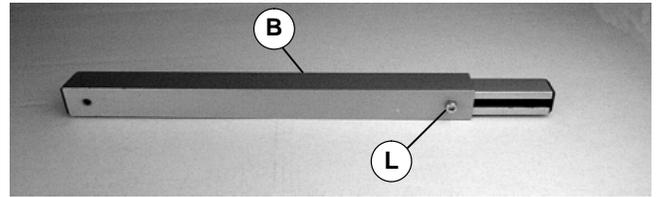

Figure 10
- Loosen screw (L of Figure 10) of adjustable bar (B).